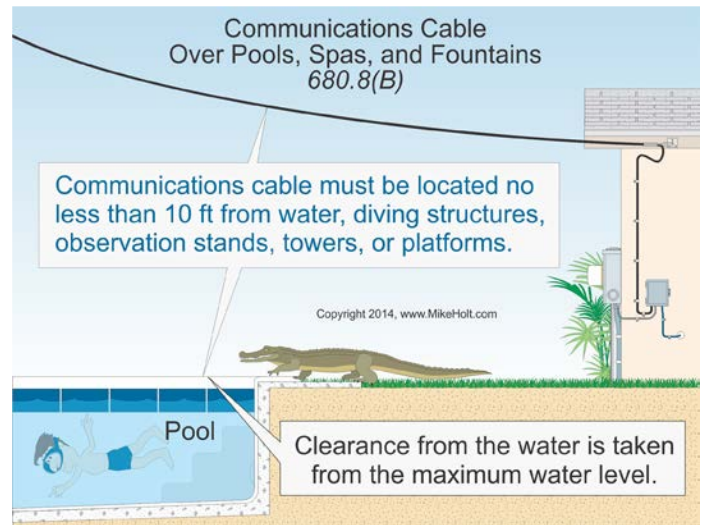

Figure 680-12
(B) Communications Systems. Permanently installed pools, storable pools, outdoor spas, outdoor hot tubs, fountains, diving structures, observation stands, towers, or platforms must not be placed under, or within, 10 ft of communications cables. *Figure 680-12*